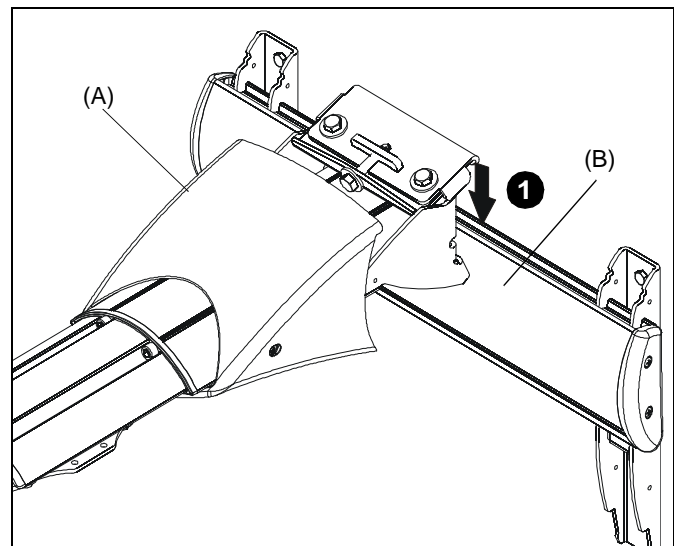

Figure 10
1. Lift short throw projector arm (A) up to mounting bracket (B) and hook top plate onto cross bracket on mounting bracket. (See Figure 10)